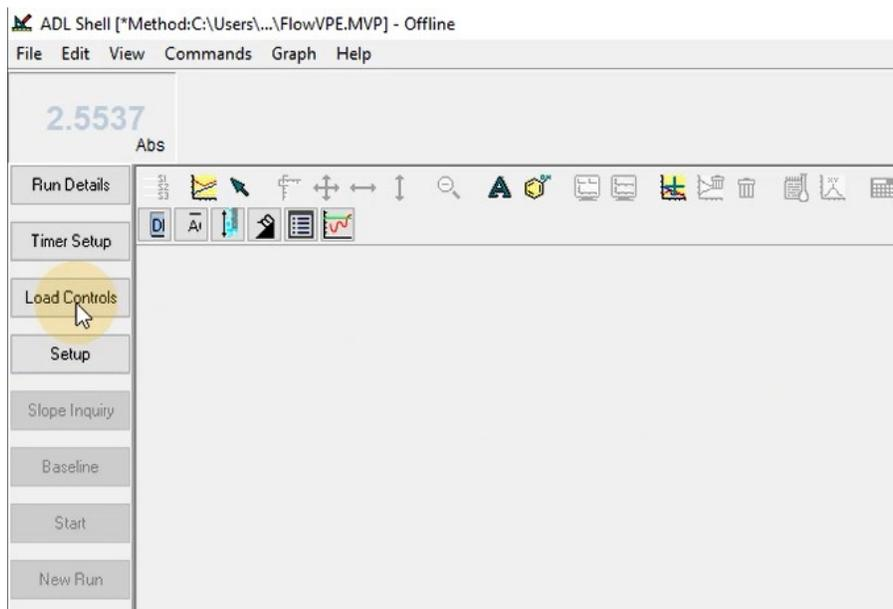

Figure 1. Load Controls button.
1. Select Load Controls from the sidebar in the FlowVPE software (Figure 1).